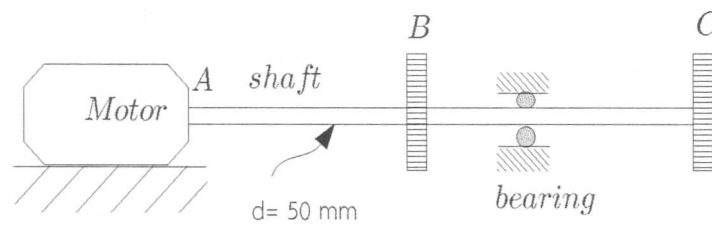

Figure 6.
6. A solid steel shaft ABC of constant diameter 50 mm as shown in Figure 6. is driven at A by a motor that transmits 50 kW to the shaft at 10 Hz. The gears at B and C drive machinery requiring power equal to 35 kW and 15 kW respectively. Compute the maximum shear stress in the shaft.